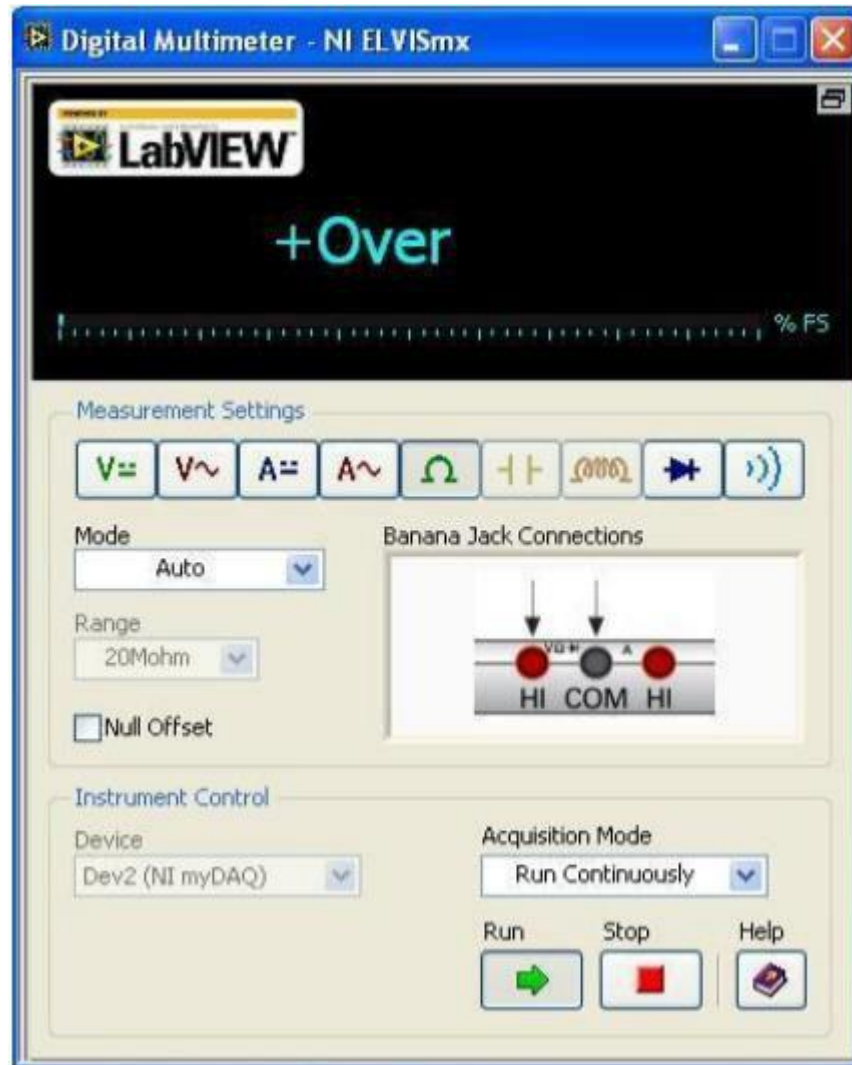

Figure 5. NI myDAQ DMM Interface
- Click on the DMM icon to open the DMM screen shown in Figure 5 below.